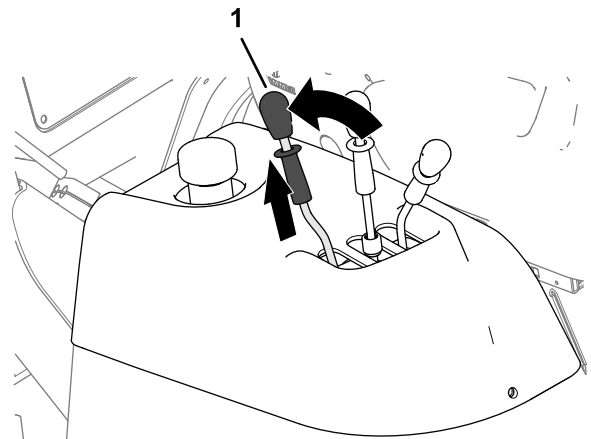

Figure 55
1. Have another person pull back and hold the hopper dump lever (Figure 55).